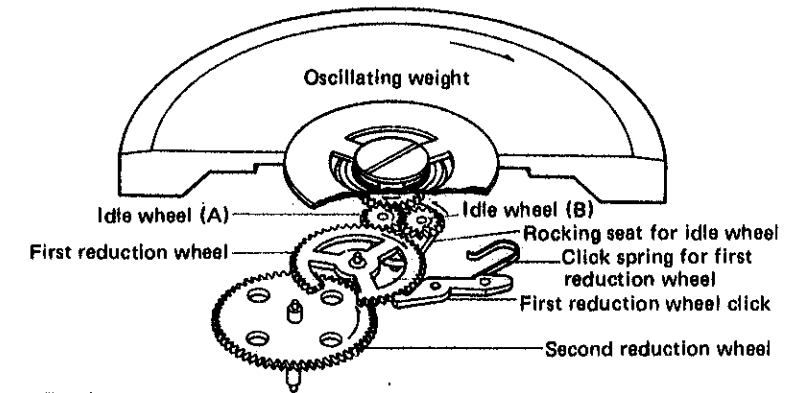

Fig. 1
There are three types of setting levers. They are used according to the structure of cases and types of winding stems. Select a suitable one by the following procedures referring to the shapes indicated in Fig. 1.
(Fig. 1)
When the oscillating weight revolves clockwise, the idle wheel (A) turns counterclockwise by action of the oscillating weight pinion; also the rocking seat for idle wheel revolves in the arrow direction. (The pin of the rocking seat for idle wheel revolves in a range of hole of the barrel and train wheel bridge.) In this case, idle wheel (A) transmits force by meshing with the first reduction wheel, and idle wheel (B) is freed from the first reduction wheel (Refer to Fig. 1)